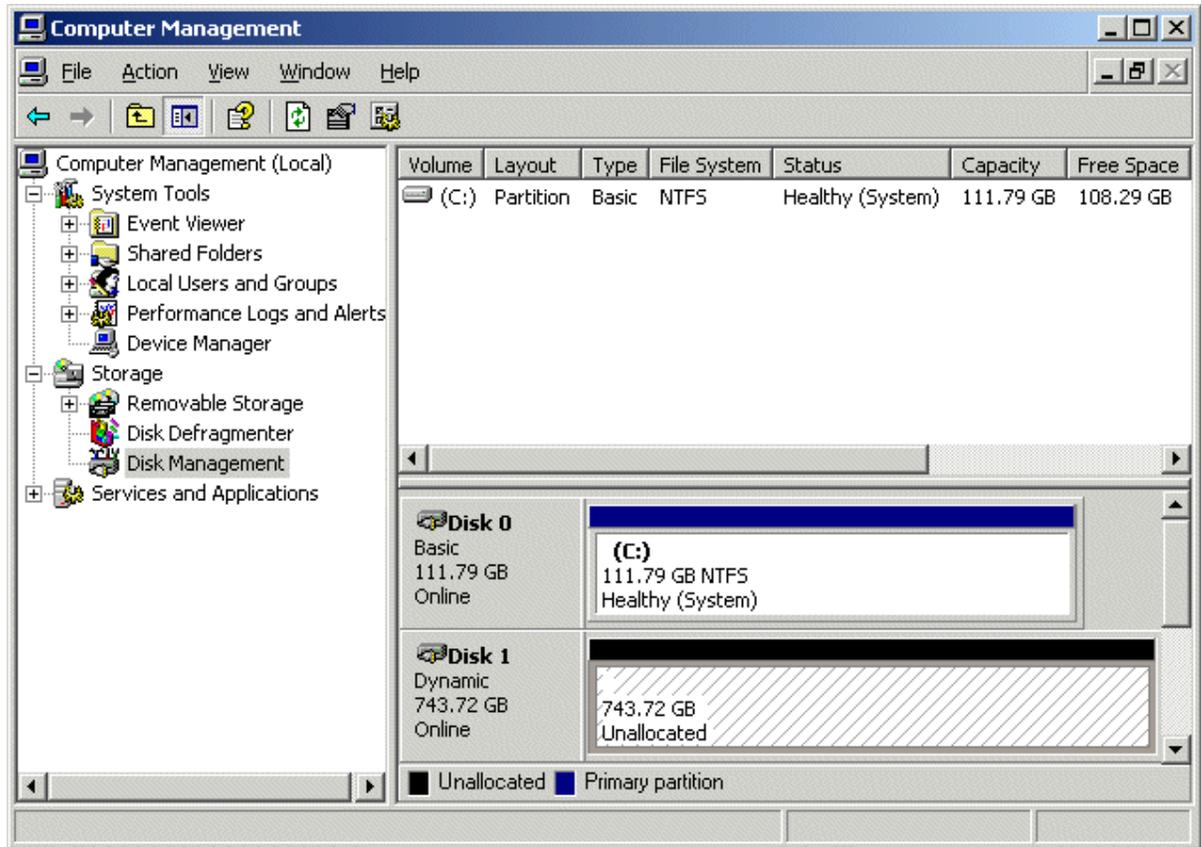

Figure 2-21. Disk 1 is – as yet - unallocated
- 21) Observe that the **Disk Management** area of the **Computer Management** dialog now shows **Disk 1** as being a Dynamic disk that is – as yet – unallocated as shown in Figure 2-21.